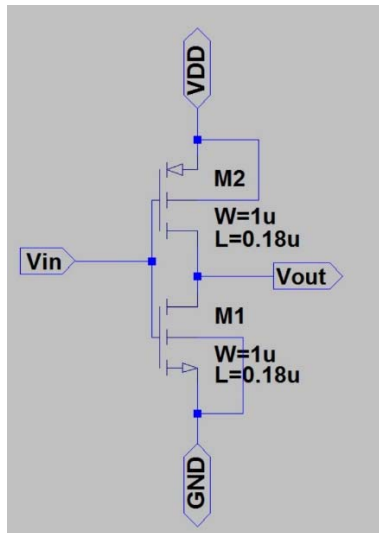
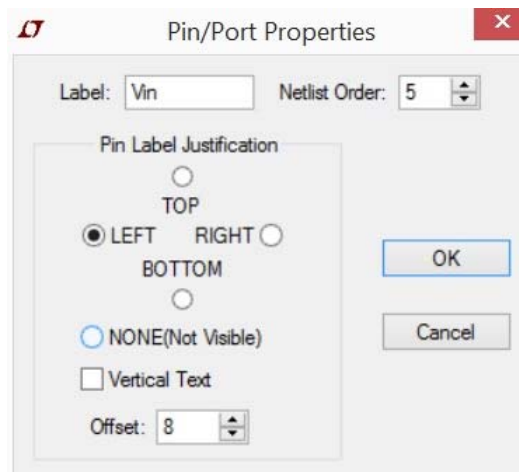

Figure 9. Schematic of inverter
Figure 11. Add Pin/Port properties form
- M. Click  on the schematic window to wire the components. The circuit will look like Figure 9 after wiring. You can click  and then a symbol to move it, followed by click  or  to rotate or mirror it if necessary.
- D. The ports must be added as that of schematic (Figure 9 for the sample). Click **Edit → Add Pin/Port**. The Pin/Port Properties form displays as Figure 11, enter **Vin** in the **Label** field, and then tick **LEFT** under Pin Label Justification. Click **OK** and then the symbol window to add it.